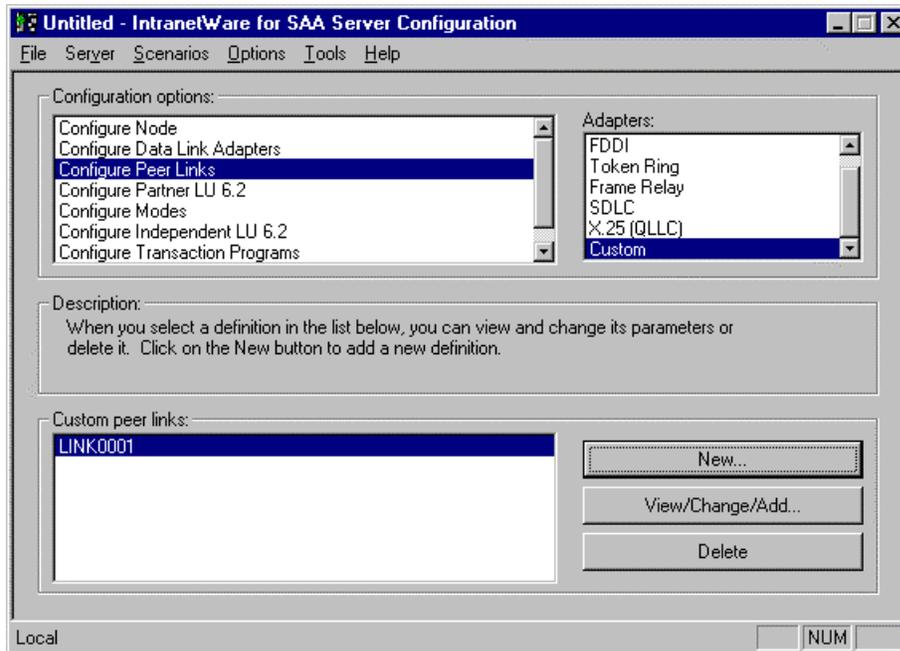

Figure 10-32. Main Display - Newly Created Custom peer link
7. To complete the peer link configuration, click **OK**. The NWSAA Server Configuration main screen will re-appear (Figure 10-32). The newly defined link will appear in Custom Peer Links under the APPN/APPC Hierarchy.
In intraNetWare for SAA version 3, the link will appear in the **Custom Peer Links:** box (Figure 10-32).